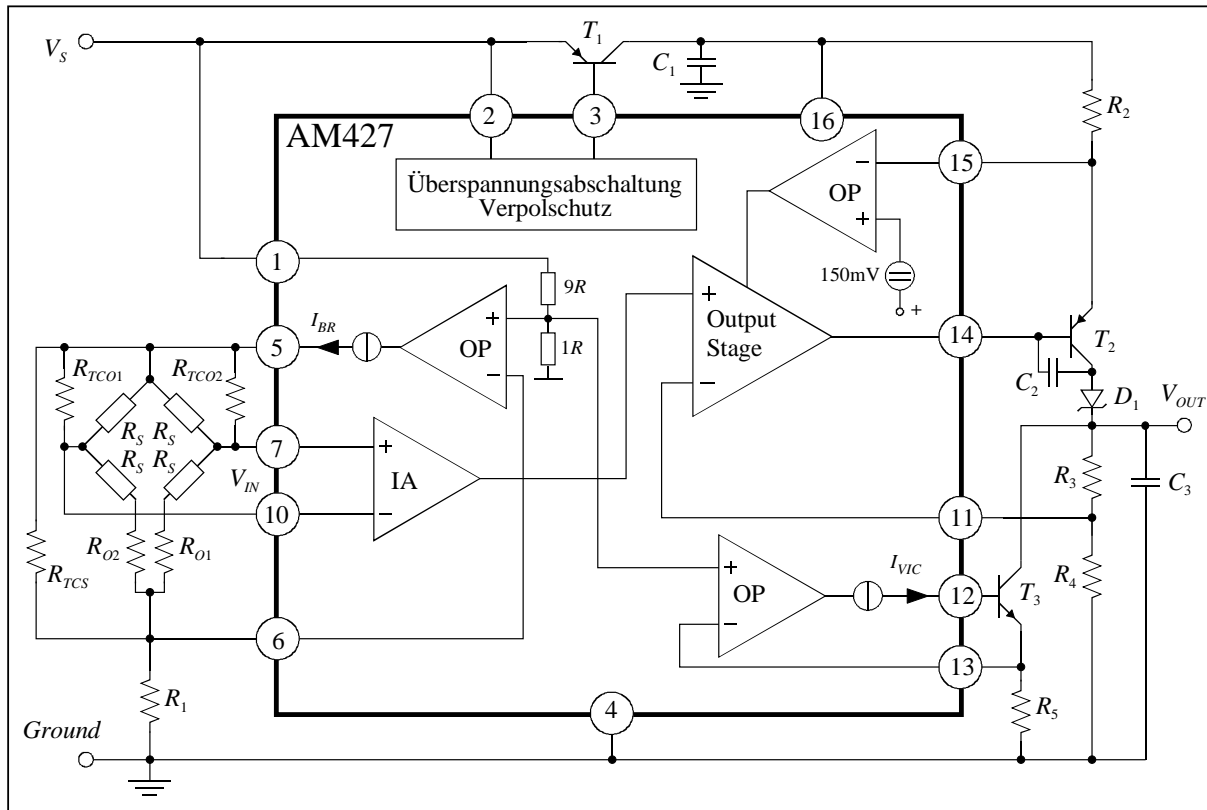

Abbildung 6
* not needed in basic application (Figure 6)